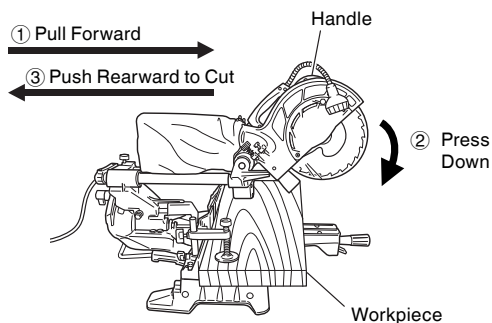

Fig. 28
Then press down on the handle and slide the saw blade back to cut the workpiece as indicated in Fig. 28. This facilitates cutting of workpieces of up to 2-9/16" (65mm) in height and 12-1/4" (312mm) in width.
(2) Workpieces up to 2-15/16" (75mm) high and 10-5/16" (262mm) wide: Workpieces of up to 2-15/16" (75mm) in height and up to 10-5/16" (262mm) in width can be cut in the same manner as described in paragraph 6-(1) above.
- \* For slide cutting, follow the procedures indicated above in Fig. 28. Forward slide cutting (toward the operator) is very dangerous because the saw blade could kick upward from the workpiece. Therefore, always slide the handle away from the operator.